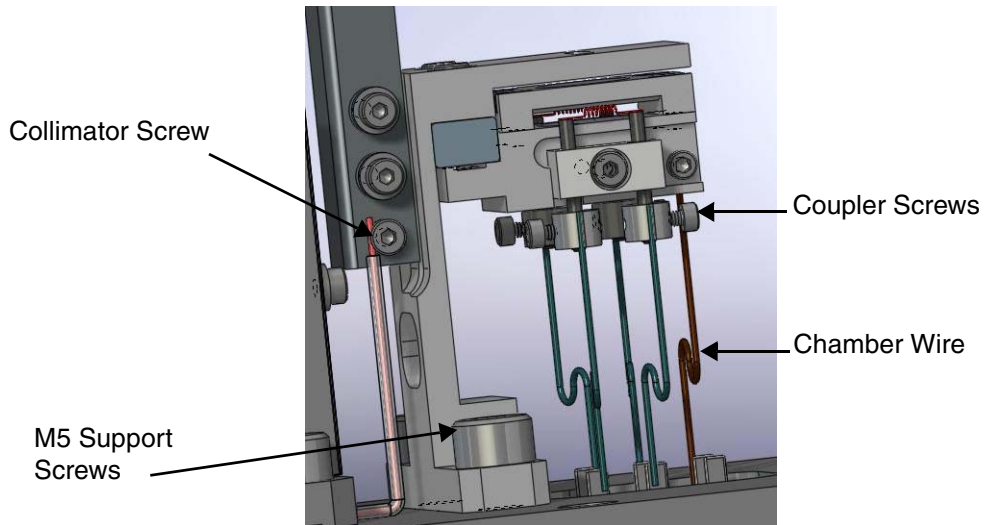

Figure B-66 Ion Support Assembly
11. Use an M1.5 Allen wrench to unscrew the four coupler screws, the collimator screw and the chamber wire screw (Figure B-66).